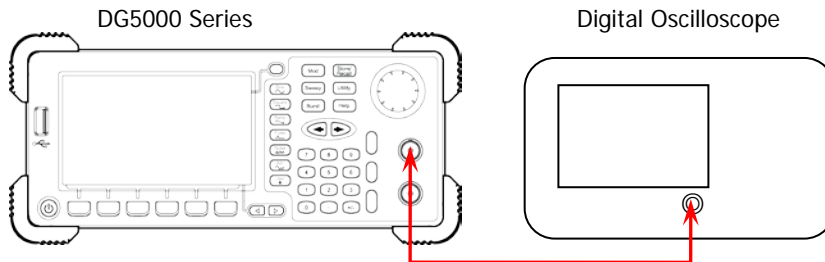

Figure 2-3 Connect DG5000 and the Digital Oscilloscope
1. Make sure that DG5000 has been warmed up for at least 30 minutes. Connect the channel output terminal (take CH1 as an example; the calibration method is also applicable to CH2) of DG5000 with the signal input terminal of the digital oscilloscope using the dual-BNC cable as shown in Figure 2-3.